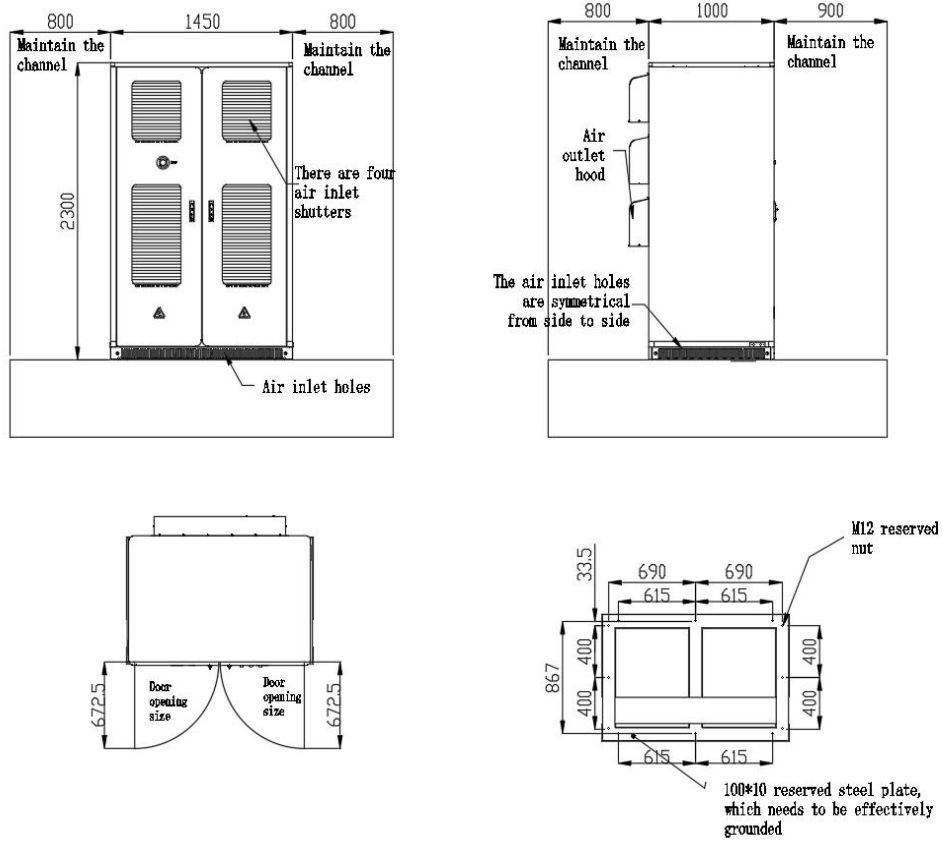

Figure 3.2 AC Energy Storage Cabinet ESS-GIRD P500E
- Select the equipment installation position in advance according to the product dimensions, and do a good job of positioning and fixing; the recommended foundation is shown in Figure 3.2.